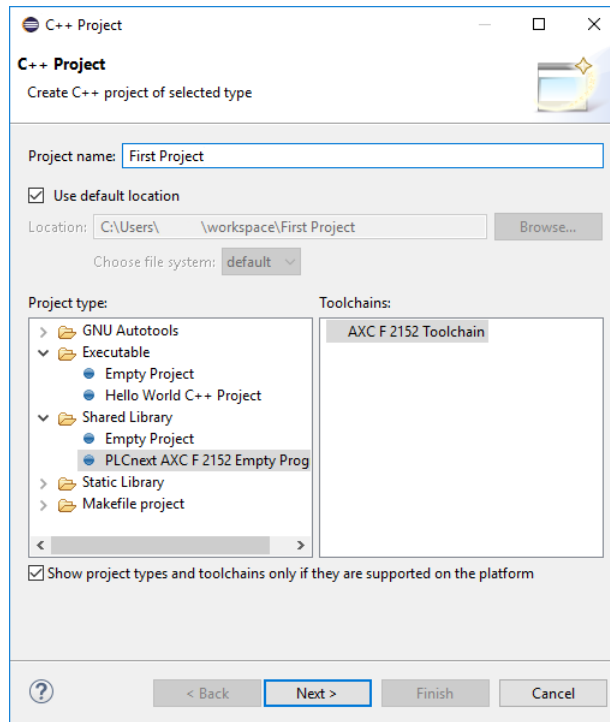

Figure 4-7 Entering a project name and selecting a project type
- In the “Project type” field, select a project type (In the example in Figure 4-7 “Entering a project name and selecting a project type”).